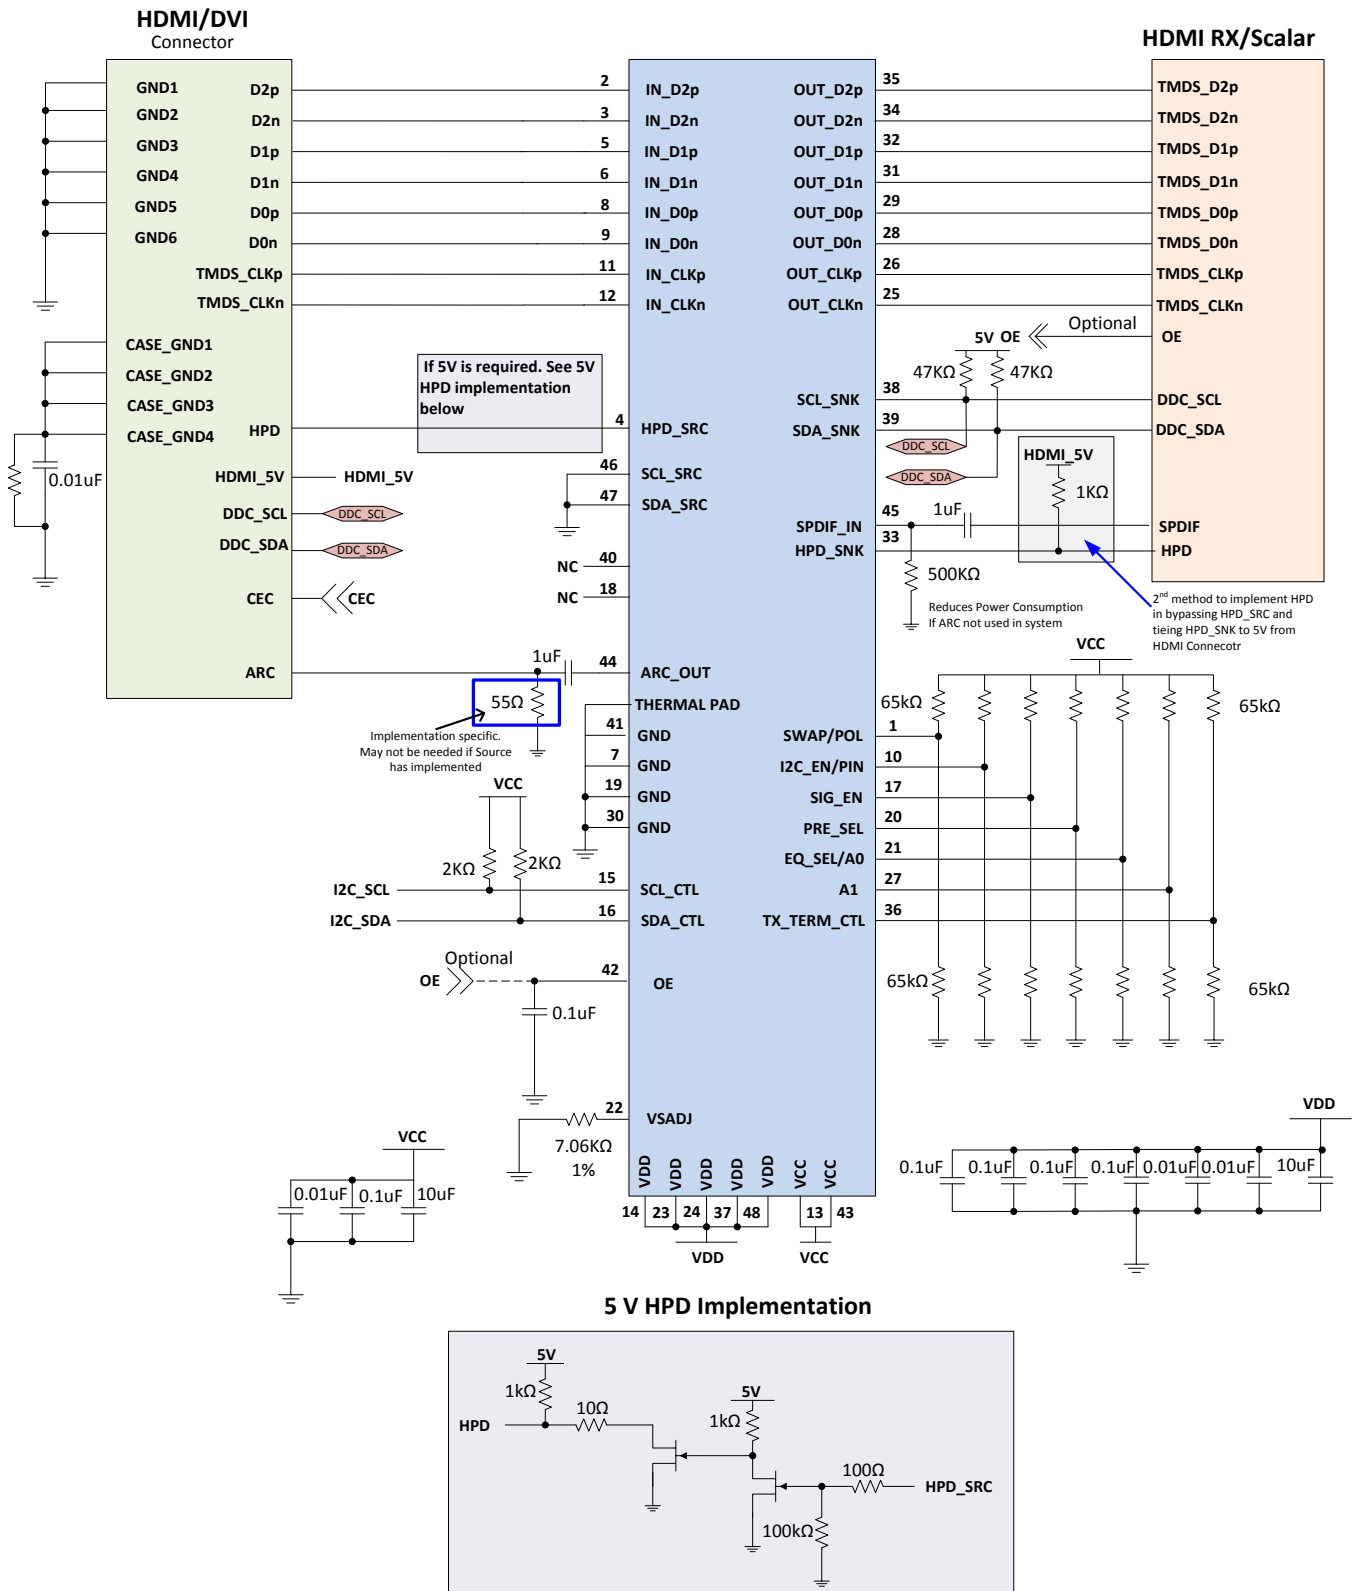

Figure 35. TMDS181 in Sink Side Application (Including 5 V HPD Implementation)
For a sink side application, HPD needs consideration. The TMDS181 drives the HPD signal to 3.3 V, which meets requirements, but if 5 V HPD signaling is required, the two circuits shown in Figure 35 are required. As sources are not consistent in implementing all aspects of the DDC link, TI recommends to configure the TMDS181 as per Figure 35. Another consideration for how HPD is implemented is the architecture and behavior of the HDMI RX/scalar. The standard requires sinks to clear the TMDS_CLOCK_RATIO_STATUS in the SCDC when either +5 V power signal from source is not present or when hot plug detect pin goes low for 100 ms or more. When HPD goes low, the TMDS181 automatically clears this bit. The TMDS181 expects the TMDS_CLOCK_RATIO_STATUS bit to be set with a write from source to receiver/sink. If this does not happen, the TMDS181 may come up in the wrong configuration. Until the HDMI ecosystem matures, TI recommends to implement sink application as per Figure 36 to address this.
Designing the TMDS181 into a sink side application requires similar care as for a source side application. However, because compliance is at the receiver, there is more flexibility for the transmitter to the HDMI RX/chipset link. Because many different reflection points are possible, the TMDS181 allows for swing, pre-emphasis, and transmitter termination control that can help minimize these reflections. The TMDS181 has a 3.3 V HPD drive capability which meets requirements. In cases where the designer needs to support 5 V HPD drive capability, the circuit shown in Figure 35 is required.
- Use the typical application Figure 35 for information on control pin resistors.
- See schematics in Figure 35 on recommended decoupling capacitors from VCC pins to ground.